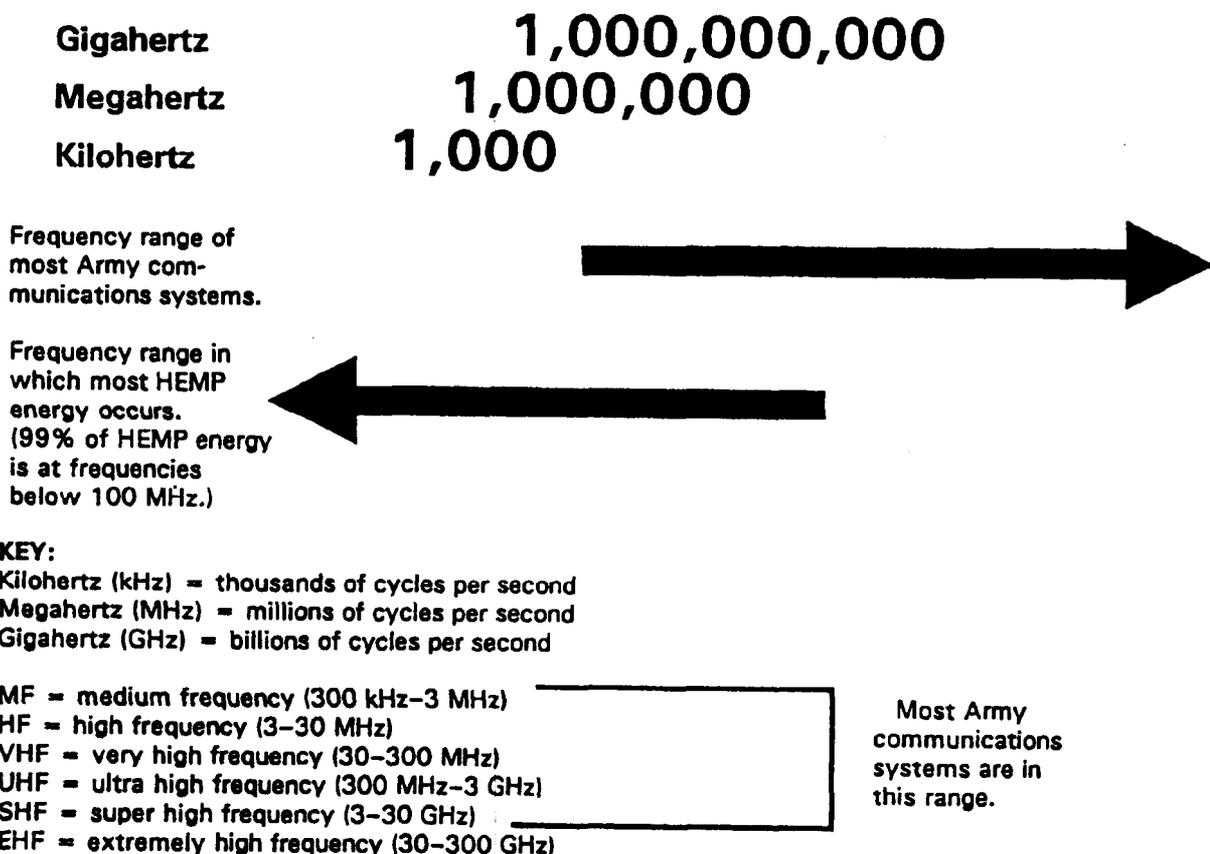

Figure C-5. Radio and EMP frequencies.
- Most EMP energy occurs in the frequency range below 100 megahertz. While many tactical radios operate in this frequency range, some, like microwave systems, do not. Figure C-5 shows the correlation between megahertz and commonly used abbreviations for radio frequencies.